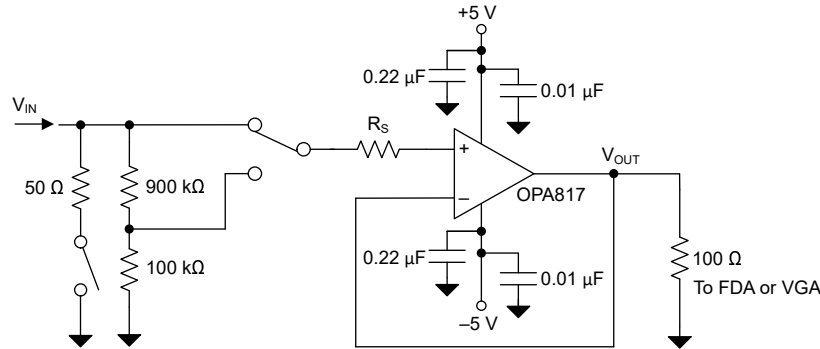
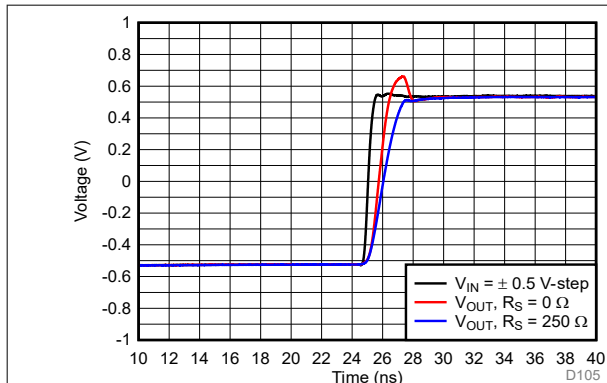
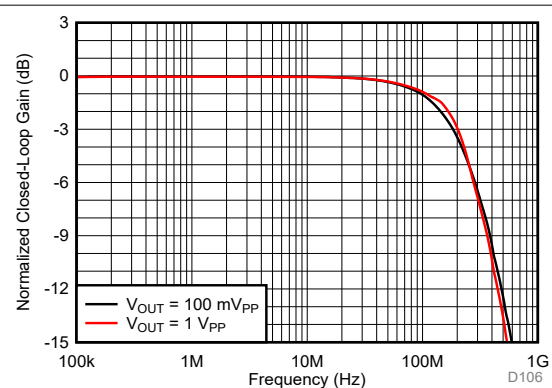

图 8-3. High-Input-Impedance, 200MHz, Digitizer Front-End Amplifier
图 8-4. Step Response of Digitizer Front-End
图 8-5. Frequency Response for $R_S = 250 \Omega$
- Optimizing Overshoot:** The OPA817 features an internal slew-boost circuit to deliver fast rise-time in applications needing high slew rates such as when configured as a transimpedance amplifier. For applications where overshoot needs to be limited, the input slew rates can be limited with introducing a series resistance (R_S) as shown in 图 8-3. The resistance R_S forms a low pass filter with the input capacitance of approximately 2.6 pF at the noninverting pin of the OPA817 limiting the input slew rate to the amplifier. 图 8-4 shows how limiting the input slew rate to the amplifier results in good overshoot performance, and 图 8-5 shows how this achieves a small signal and large signal bandwidth of 200 MHz.